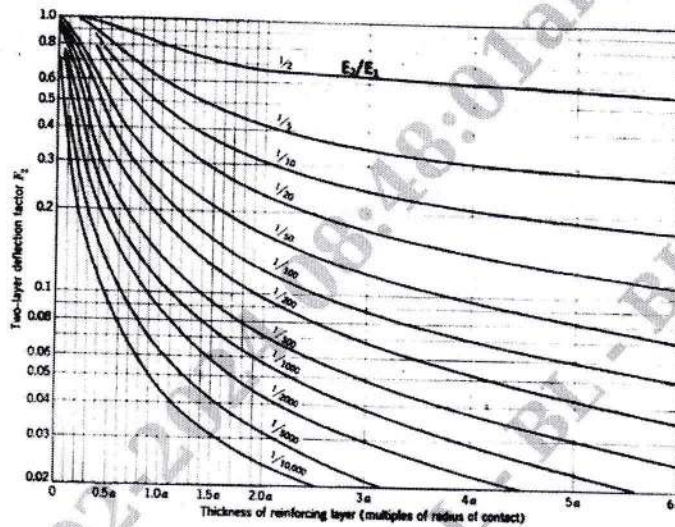

Fig.Q.2(b)
- ii) What should be the thickness of base course as to sustain wheel load of 50kN and contact pressure 0.6 N/mm² so that maximum deflection does not exceed 5mm. Use Fig.Q.2(b). (08 Marks)